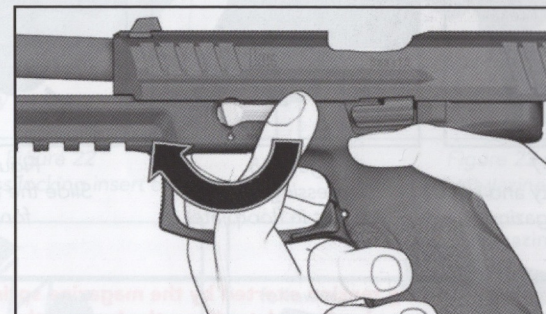

Figure 14 — Rotating the disassembly lever
2. With the slide still locked to the rear and the magazine removed, rotate disassembly lever, located on the left hand side of the frame, forward until the lever is pointing downwards to approximately the six o'clock position (see Figure 14):